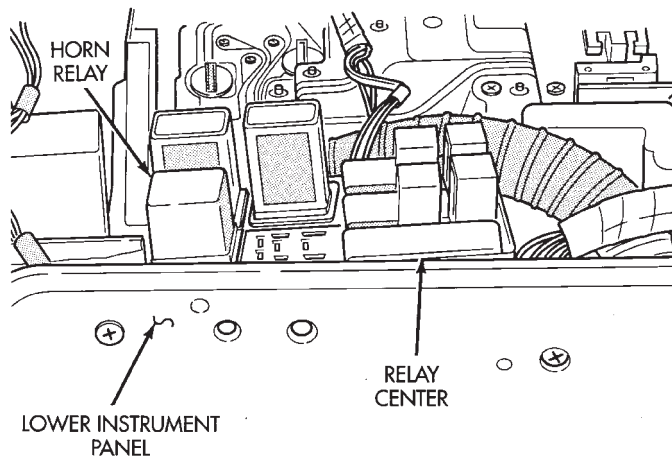

Fig. 2 Horn Relay
- Remove the horn relay located in the relay center. The relay center is on the lower instrument panel trim cover just right of the steering column (Fig. 2). There should be 12 volts at relay connector pins 1 and 2. If not, repair open in circuit to relay.